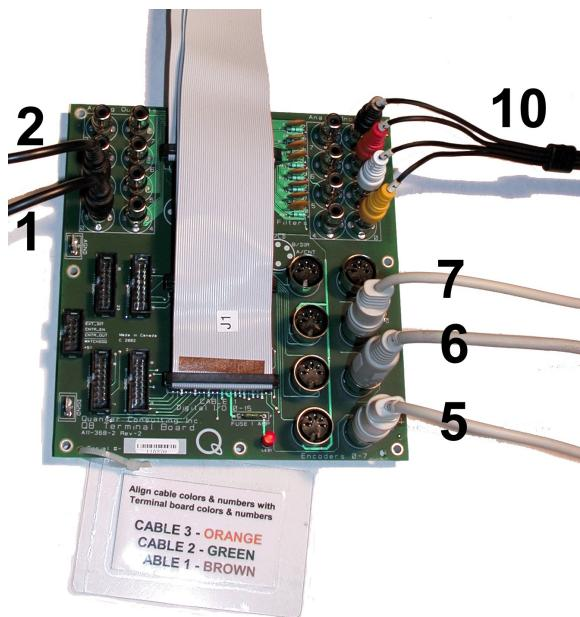
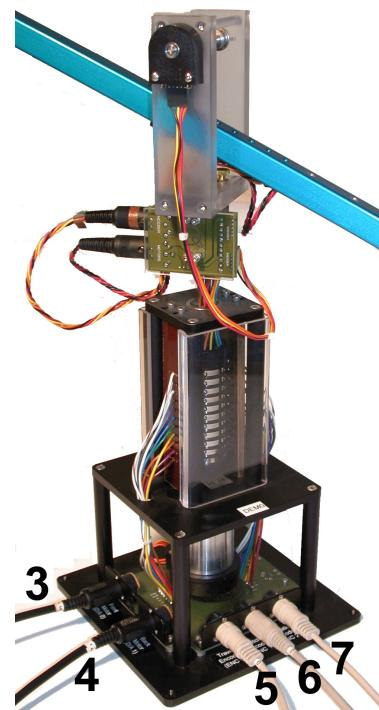

Figure 18 Q8 Terminal Board Connections
Figure 19 3-DOF Helicopter Connections
3. Connect the 5-pin-DIN to RCA cable from the *Analog Output Channel #0* on the DAC board to the *From D/A Connector* on a UPM-2405. See cable #1 shown in Figure 16 and Figure 18. This carries the attenuated **front** motor voltage control signal,  $V_f/K_a$ , where  $K_a$  is the UPM-2405 amplifier gain.
4. Connect the 5-pin-DIN to RCA cable from the *Analog Output Channel #1* on the DAC board to the *From D/A Connector* on a UPM-2405. See the cable #2 shown in Figure 17 and Figure 18. This carries the attenuated **back** motor voltage control signal,  $V_b/K_a$ .
UPM-2405 to the *Front Motor* connector. See connection #3 shown in Figure 16 and Figure 19. This cable sets the gain of the amplifier to 5 and the connector on the UPM-side is gray in colour. The cable transmits the amplified voltage that is applied to the **front** motor, denoted  $V_f$
6. Connect the 4-pin-stereo-DIN to 6-pin-stereo-DIN that is labeled **Gain 5** from *To Load* on the UPM-2405 to the *Back Motor* connector. See connection #4 shown in Figure 17 and Figure 19. The cable carries the amplified **back** motor voltage and is represented by the variable  $V_b$ .
7. Connect the 5-pin-stereo-DIN to 5-pin-stereo-DIN cable from the *Travel Encoder* connector on the 3-DOF Helicopter base to *Encoder Input # 0* on the terminal board, as depicted by connection #5 in Figure 18 and Figure 19. This carries the travel angle measurement and is denoted by the variable  $\lambda$ .
8. Connect the 5-pin-stereo-DIN to 5-pin-stereo-DIN cable from the *Pitch Encoder* connector on the 3-DOF Helicopter base to *Encoder Input # 1* on the terminal board. See connection #6 in Figure 18 and Figure 19. This carries the pitch angle measurement which is represented by the variable  $p$ .
9. Connect the 5-pin-stereo-DIN to 5-pin-stereo-DIN cable from the *Elevation Encoder* connector on the 3 DOF Helicopter base to *Encoder Input # 2* on the terminal board. This connection is illustrated in Figure 18 and Figure 19 by ID #7. It carries the elevation angle measurement,  $\varepsilon$ .
10. **If you are using the analog joystick shown in Figure 24 go to Step 11.** If you are using are using the Logitech Attack 3 USB joystick shown in Figure 25, then connect the USB cable from the joystick to a USB port on the PC while it is running. The system should detect the joystick and automatically install the driver (you will be prompted). See the *Logitech Installation Manual* for more information on the setup procedure. Note that if the USB joystick is used then the analog connections shown in Figure 17 and the 5-pin-DIN to 4xRCA cable connection shown in Figure 17 and Figure 18 are not needed and these cables would not be supplied. Also, the shaded connections listed in Table 6 can be ignored. See Section 5.5 for more information on system requirements of the Logitech joystick and how to use the *Rate Command* knob.
12. Connect the "**To A/D**" socket on the UPM-2405 with the joystick connections to Analog Inputs #0-3 on the terminal board using the 5-pin-DIN to 4xRCA cable, as illustrated in Figure 17 and Figure 18. The RCA side of the cable is labeled with the channels. Note that the cable with label "1" is goes to *Analog Input Channel #0*. **Ensure UPM and PC are off when making this connection!** The X and Y signals that are connected to the "**S3**" and "**S4**" terminals on the UPM are read in as *Analog Input #2* and *Analog Input #3* in QuaRC.